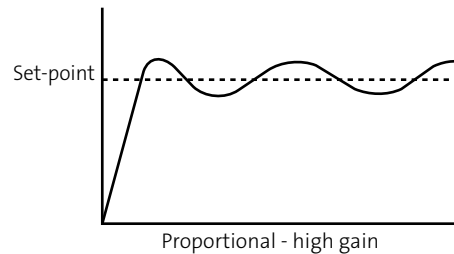

Figure 3: high gain
3. Decrease the P-gain 10 to 15% below this value. The difference in levels for feedback and set-point will be close but not exact. Refer to Figure 3.